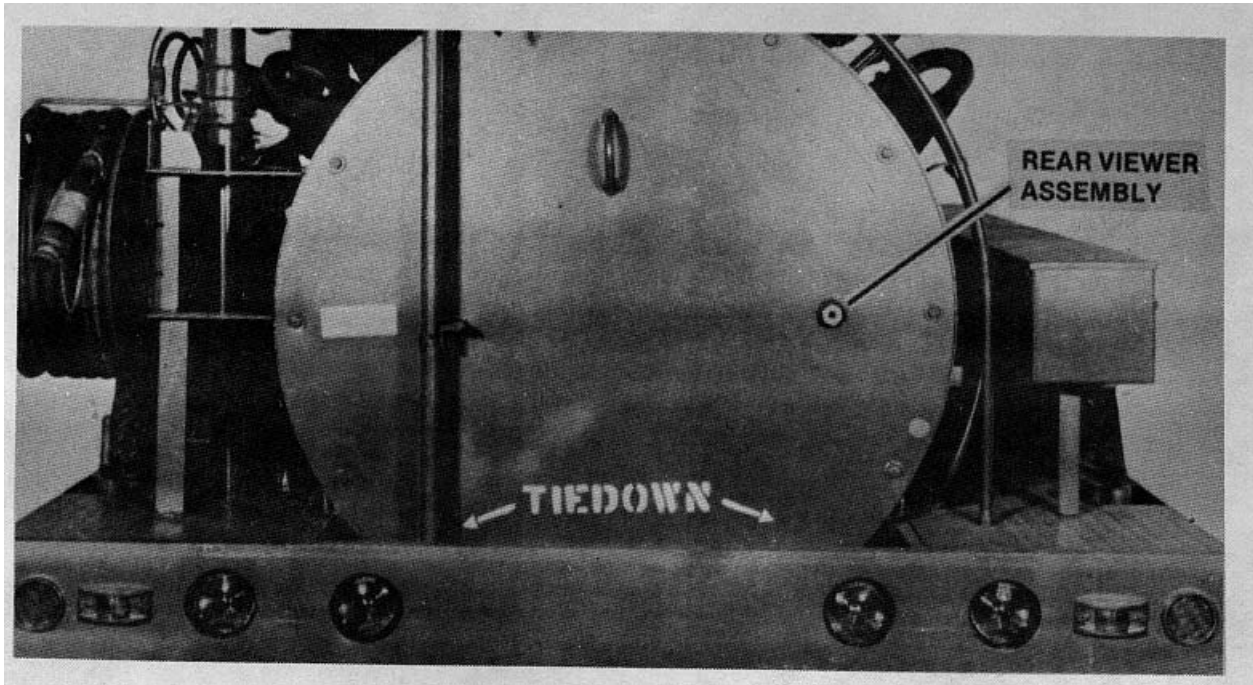

Figure 45. REAR VIEWER ASSEMBLY.
2. Refer to Fig. 45 and view the electrode spark through the rear plate viewer assembly Spark should be a bright blue if electrodes are properly adjusted.